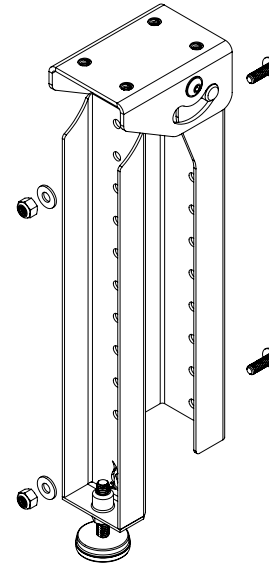

FIG 10
3.2 Adjust Leg Height: Deploy the **Bed Legs** and check the leveling. If adjustment is needed, remove the **1/4-20 X 0.75 Flanged Button Head Hex Screws, Flat Washers, And Nylon Locknuts (FIG 10)**. Adjust the inner bracket to the desired height (**FIG 11**) and resecure with hardware. Additional fine-tuning can be done using the built-in leveling mount on the bottom of the leg.